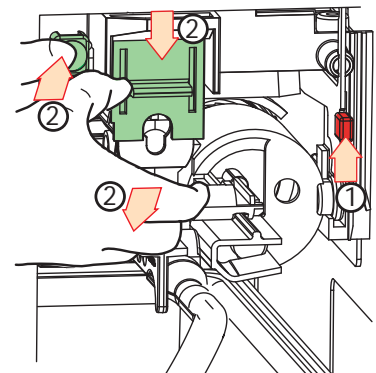

Figure 4-12
4. Push the lever on the right up (1). Push the left-hand button (2) in and push the locking lever (2) down at the same time. Carefully pull the entire brewer forwards (see figure 4-12).